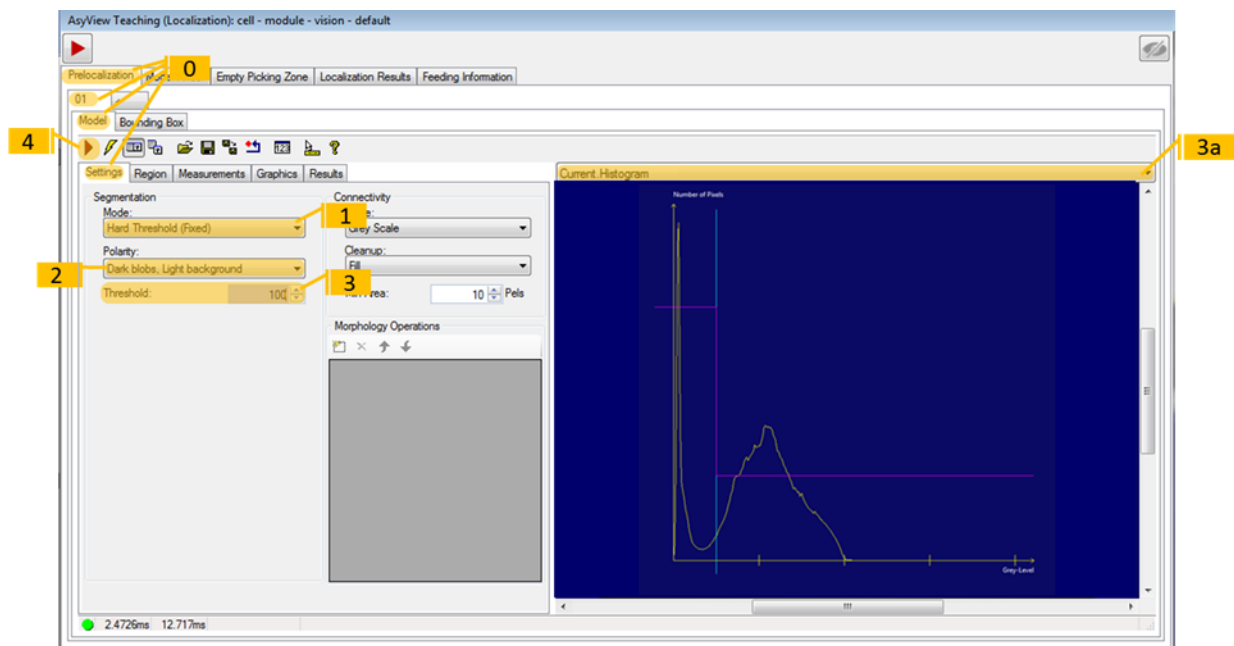

Figure 5-5-3: "Pre-localization" tool, 01\Model\Settings
Step 3	<ul style="list-style-type: none"> a- In the image selector, choose Current.Histogram b- Depending on the histogram, change the threshold value for the number of pixels according to the grey level as shown in Figure 5-5-3.